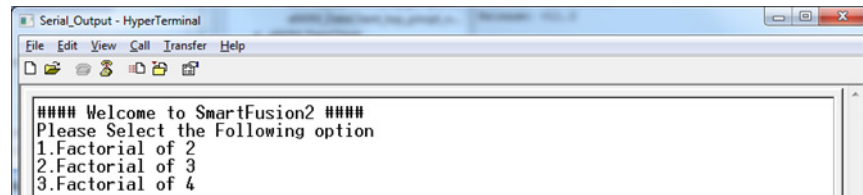

Figure 27 • Selecting Factorial of a Number - User Options
8. The serial terminal program displays the user options as shown in Figure 27.